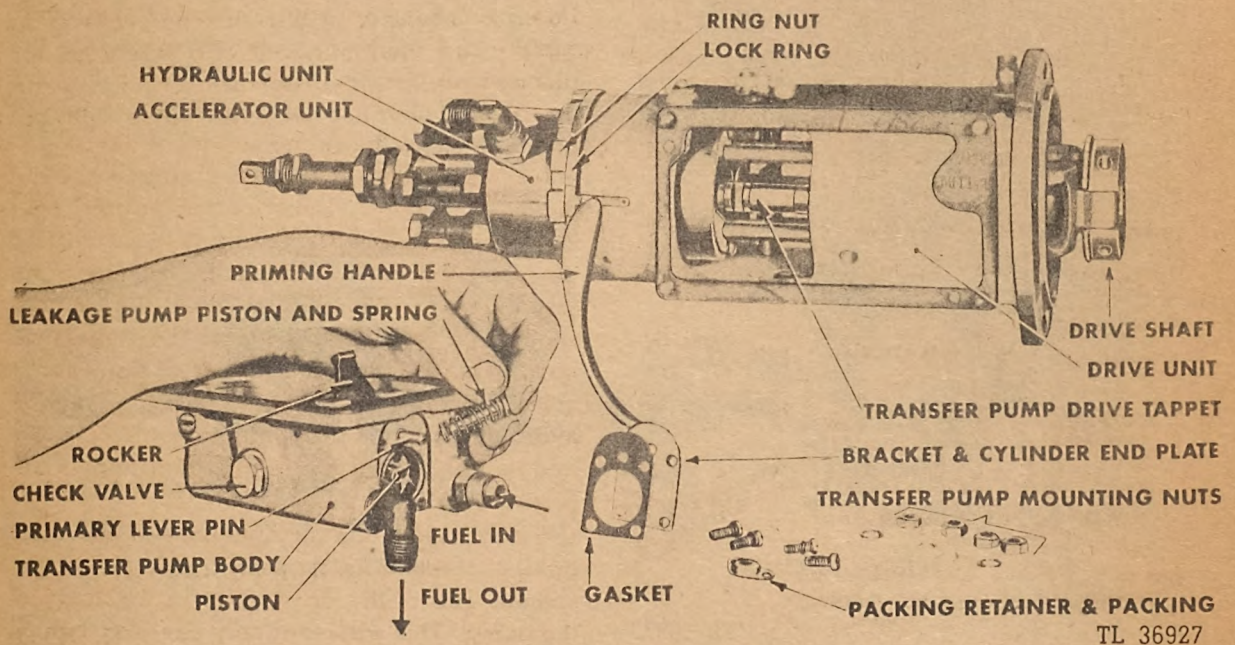

Fig. 275. Removing Leakage Pump Piston and Spring
- (1) Remove the bracket and cylinder end plate assembly held in position by four fillister head screws. Be careful that the packing retainer and packing around the priming lever pin are not lost. (See Figure 275.)
- (2) The removal of the bracket and cylinder end plate assembly will expose the leakage pump piston and spring, which can be lifted out. (See Figure 275.)